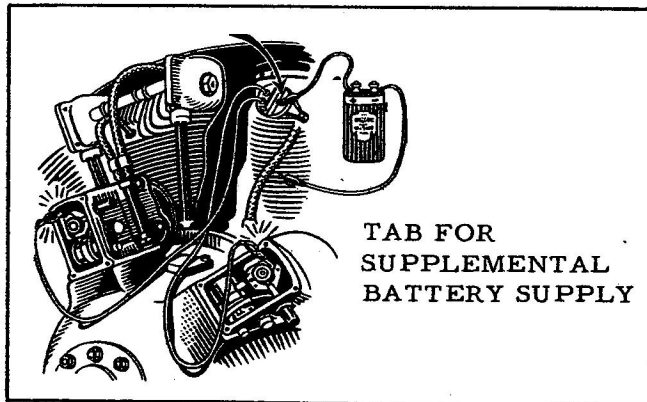

Figure 2-7
STEP 7, see Figure 2-7
(b) After finding the desired timing position of the piston as previously described, move the slide pointer down and away from the pivot arm so as to disconnect the bulb circuit through the arm and slide. Insert the phone tips into the jacks and attach the alligator clips to the proper connections on the magneto for checking operation of the breaker points as shown in Figure 2-7. Adjust the magneto timing in the usual manner so that the breaker points are just opening. The lights will be lit when the breaker points are closed, and will go out when the points open.